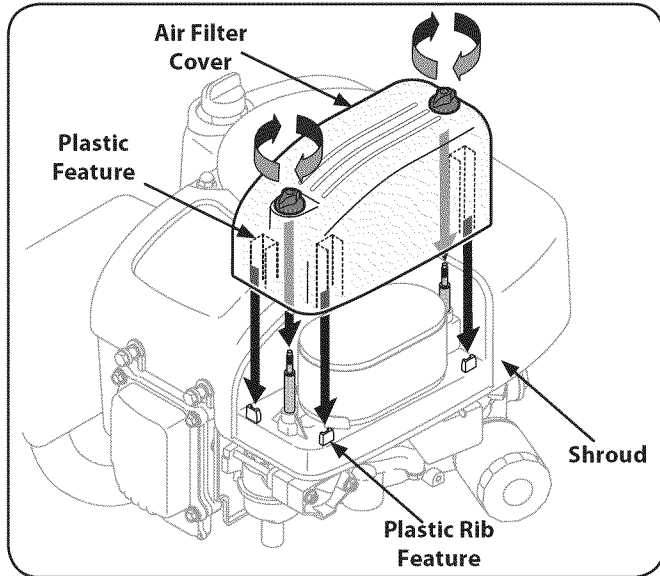

Figure 17
6. Attach the air filter cover, making sure to align plastic rib features on the shroud to the plastic features on the air filter cover. See Figure 17. Turn thumb screws clockwise until snug. Check for any misalignment.